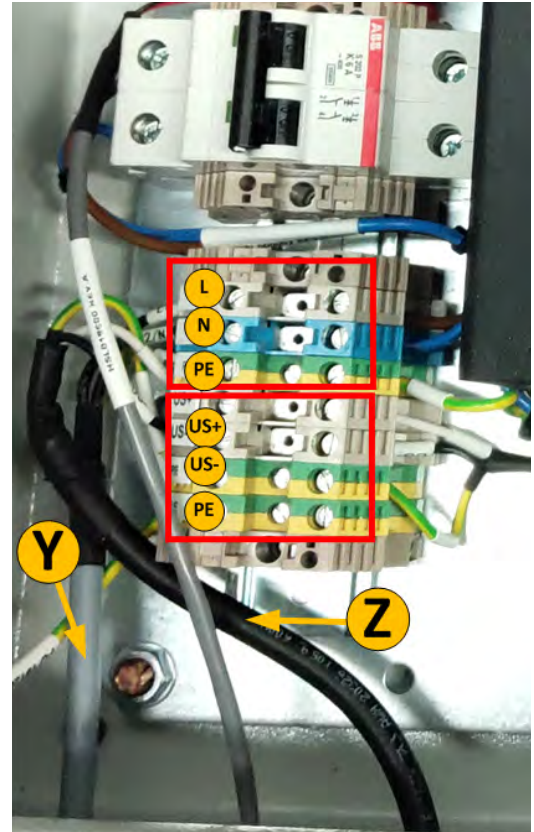

Figure 5-24: Ultrasonic Cleaner Module Terminals
- Step 2.** Connect the Ultrasonic Cleaner (Z) cable's White wire to the **US+** port on the Ultrasonic Cleaner Module terminal in Figure 5-24.
- Step 3.** Connect the Ultrasonic Cleaner cable's Black wire to the **US-** port on the Ultrasonic Cleaner Module terminal in Figure 5-24 to the right.